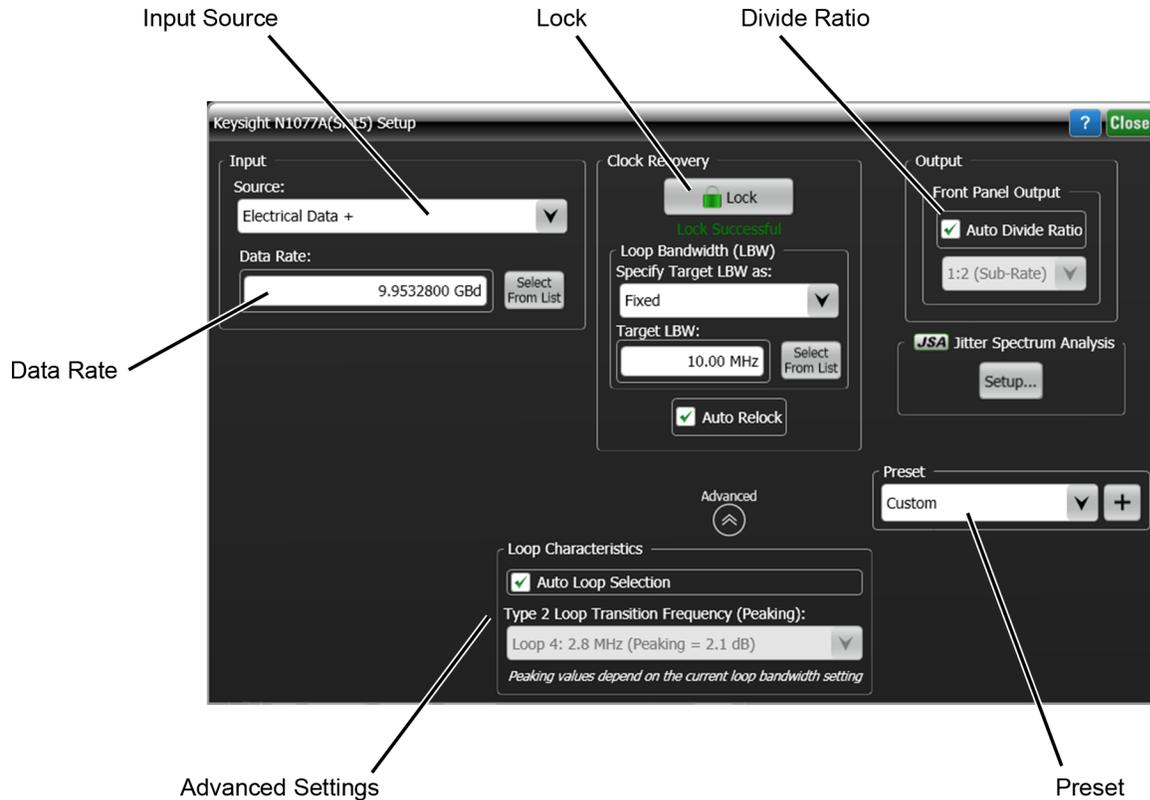

Figure 33. Clock Recovery Setup Dialog
6. Click **Setup > Modules > (Slot 6): Clock Recovery**. The dialog box shown *Figure 33 on page 75* is displayed.